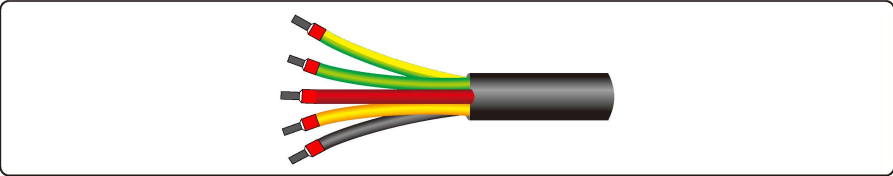

Figure 5.5 Crimping Euro type terminals
Step 2 Crimp Euro type terminals using special crimping tool, shown in Figure 5.5.